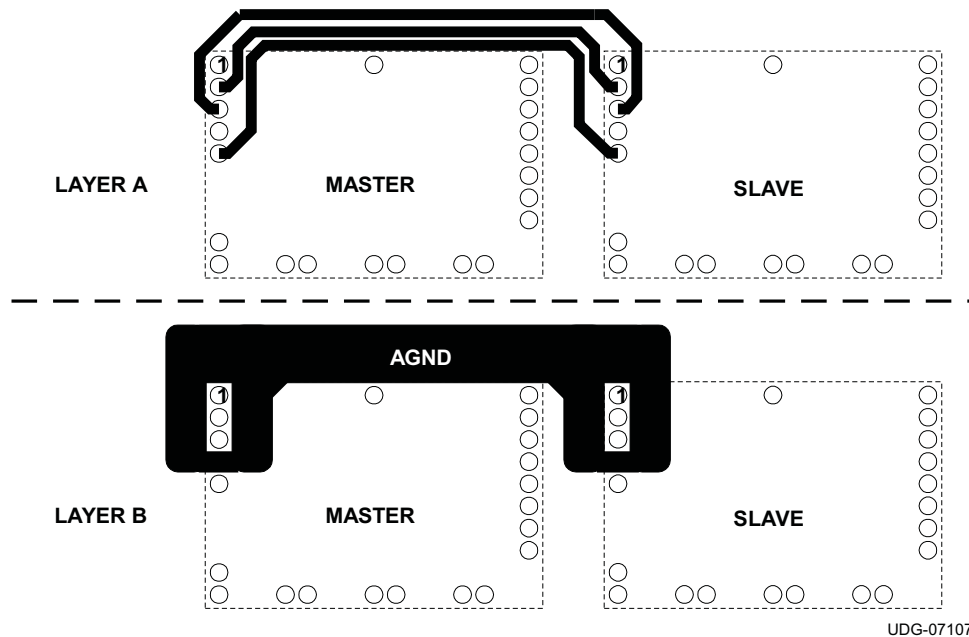

Figure 27. Recommended Layout of Inter-Connection Pins Between Two Current Sharing Modules
The PTH08T250W module is capable of being configured in parallel with another PTH08T250W module to share load current. To parallel the two modules, it is necessary to configure one module as the Master and one module as the Slave. To configure a module as the Master, connect the CONFIG pin (pin 1) to GND. The CONFIG pin of the Slave must be connected to V_I . In order to share current, pins 2 thru 5 of both the Master and Slave must be connected between the two modules. See Figure 27 for the recommended layout of pins 2 thru 5. The module that is configured as the MASTER is used to control all of the functions of the two modules including Inhibit ON/OFF control, AutoTrack sequencing, TurboTrans, SmartSync, +/- Remote Sense, and Output Voltage Adjust. See the current sharing diagram in Figure 22 for connections. The MASTER and the SLAVE must be powered from the same input voltage supply.
(1) For more details on the pin descriptions, refer the Pin Functions table.
(2) See Layer A in Figure 27 for recommended layout
(3) See Layer B in Figure 27 for recommended layout
In current sharing applications the V_I pins of both modules must be connected to the same input bus. The V_O pins of both modules are connected together to power the load. The GND pins of both modules are connected via the GND plane. Four other inter-connection pins are connected between the modules. Figure 27 shows the required layout of the inter-connection pins for two modules configured to share current. Notice that the Share (pin 2) connection is routed between the Comp (pin 3) and CLKIO (pin 5) connections. AGND (pin 4) should be connected as a thicker trace on an adjacent layer, running parallel to pins 2, 3 and 5. AGND must not be connected to the GND plane.